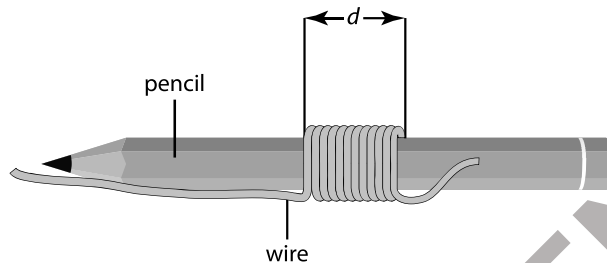

Figure 1.6
- 1 Wrap the wire tightly around the pencil until you have 10 turns. Make sure the turns touch each other but do not overlap, as shown in Figure 1.6.